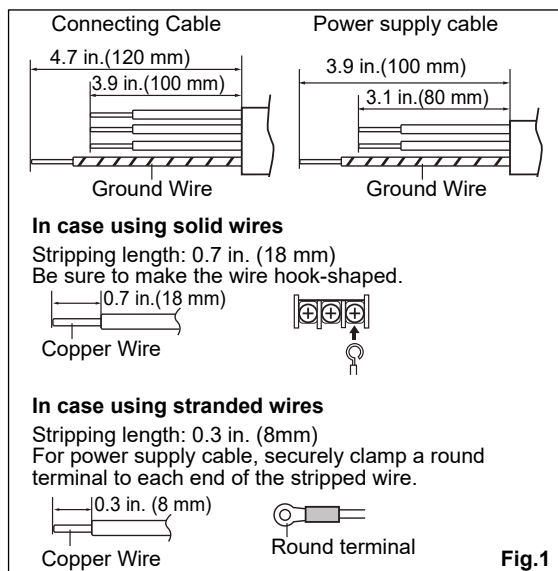

Fig.1
- (1) Strip the copper wires. (Fig.1)
- (2) Remove the Cable Cover.